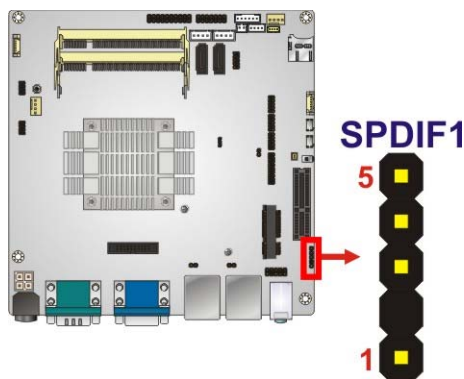

Figure 3-24: SPDIF Connector Location
- CN Location:** See **Figure 3-24**